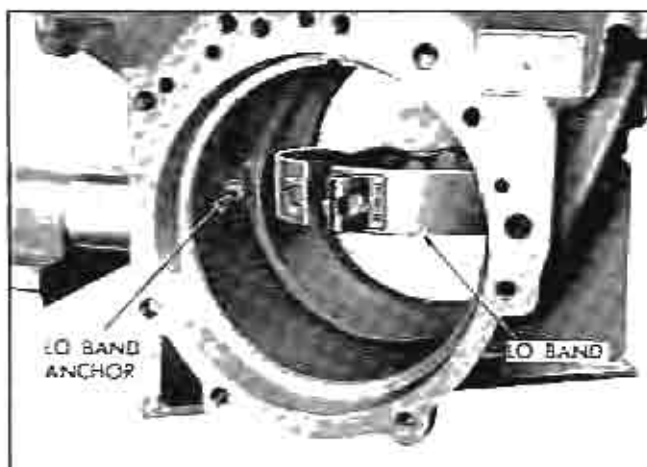

Fig. 65 Removing L Band
1. Unhook band end from anchor inside of case (Fig. 65).
3. Turn band so that ends are facing rear of case (Fig. 65).